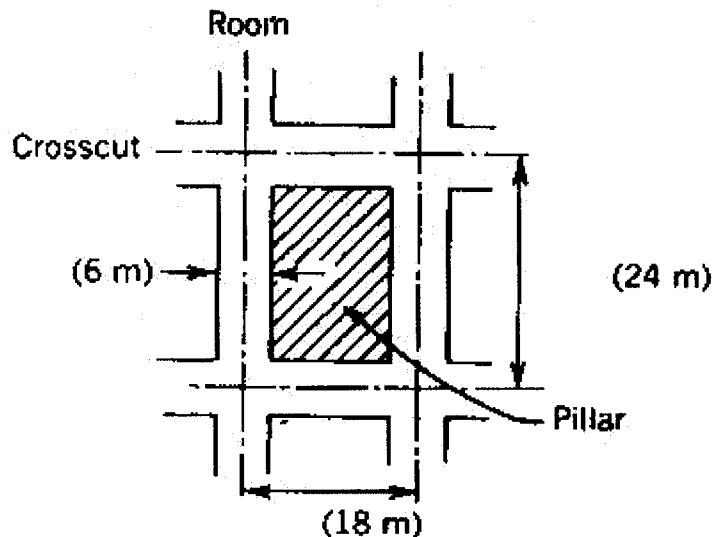

Fig. 2 Portion of panel in room and pillar coal mine
| ii) Fig. 2 shows a portion of panel in room and pillar coal mine. All openings are 6 m in width, and the mining height is regular. Rooms are driven on 18 m centers and cross cuts on 24 m centers. Calculate the percentage recovery in the panel (1) without pillar |            |